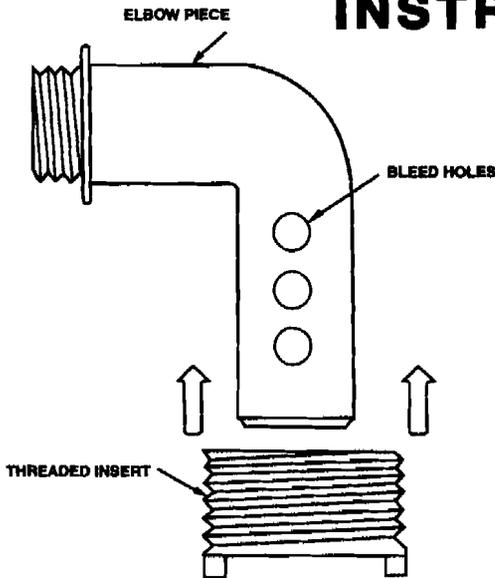

FIGURE 4
2. Slide the threaded insert (6) over the Elbow Piece (7) as shown in Fig. 4. The threaded insert (6) is a tight fit around the turn in the Elbow Piece (7). therefore, slight pressure is needed. This is your inlet adapter.
3. Refer to Figure 1. Uncoil the hose (4) and remove all twists. Using clamps (16), clamp one end of the hose to the back side of the fountainhead (1 or 3) and the other end to the inlet adapter from step 2. Cover one set of bleed holes with the hose (Fig. 4). To tighten clamp, grasp "tabs" between thumb and forefinger and squeeze. Tighten securely with a pair of pliers. To open the clamp, grip one "tab" of the clamp with pliers and twist loose.
4. Using the tie wrap (15). LOOSELY attach the anchor (5) to the hose (4). The anchor (5) should be attached to the hose (4) at a point as deep as the water plus approximately two feet. You will have to estimate what the water depth is where you want the fountain and add two feet. **CAUTION: DO NOT CONSTRICT THE HOSE BY TIGHTENING THE TIE WRAP (15) TOO TIGHT.**
6. Place the fountain assembly into the pool. Position the fountain in the desired location being careful not to crimp the hose (4)